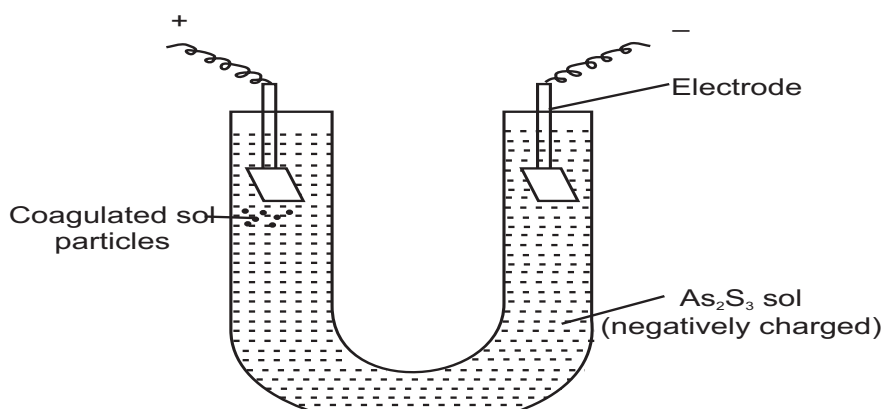

Fig. 8.6 : The Tyndall Effect
- c) **Tyndall Effect** : Tyndall in 1869, observed that if a strong beam of light is passed through a colloidal solution then the path of light is illuminated. This phenomenon is called Tyndall Effect. This phenomenon is due to scattering of light by colloidal particles (fig.8.6). The same effect is noticed when a beam of light enters a dark room through a slit and becomes visible. This happens due to the scattering of light by particles of dust in the air.